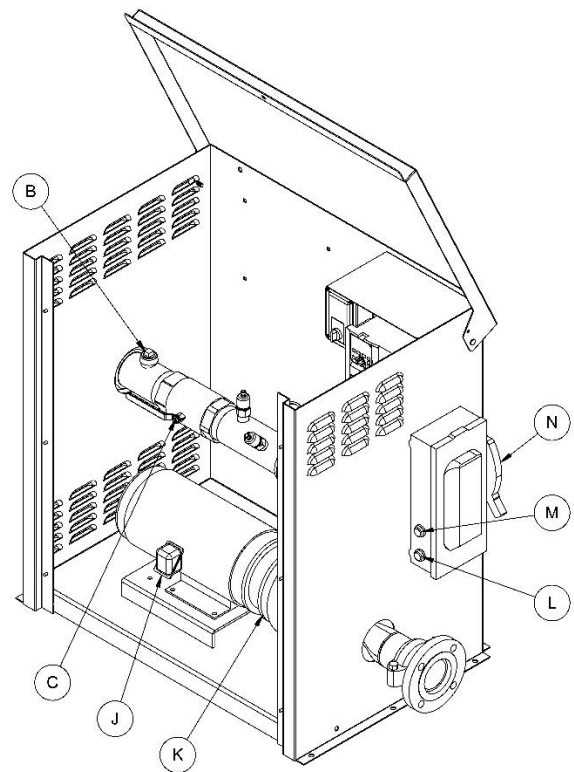
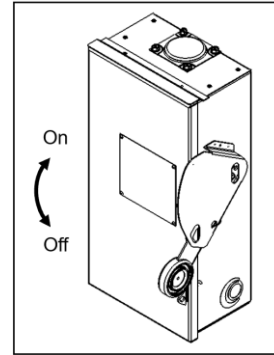

Figure 4-2. Pump Station Components.
Figure 6-1. Fused Electrical Disconnect In OFF Position.
Make sure there is adequate space surrounding the Fused Electrical Disconnect (P, Figure 4-2) in accordance with national and local electrical codes. Ensure that the Pump Station Run Light (M, Figure 4-2) and Pump Station Alarm Light (N, Figure 4-2) are clearly visible.
2. Verify that the Fused Electrical Disconnect (P, Figure 4-2) on the pump station is OFF. The handle must be in the down position. Use proper Lockout/Tagout procedures. See Figure 6-1.
3. Verify that the Fused Electrical Disconnect (P, Figure 4-2) on the pump station is OFF. The handle must be in the down position. See Figure 6-1.